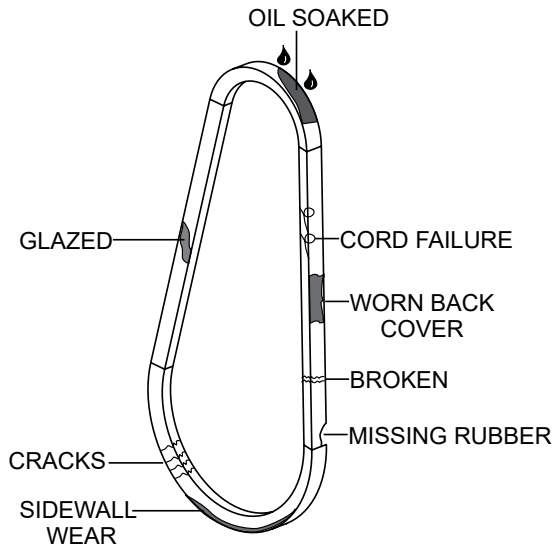

**Figure 6. Vibrator Oil Check**
1. Check the vibrator oil level by removing the drain plug (Figure 6).